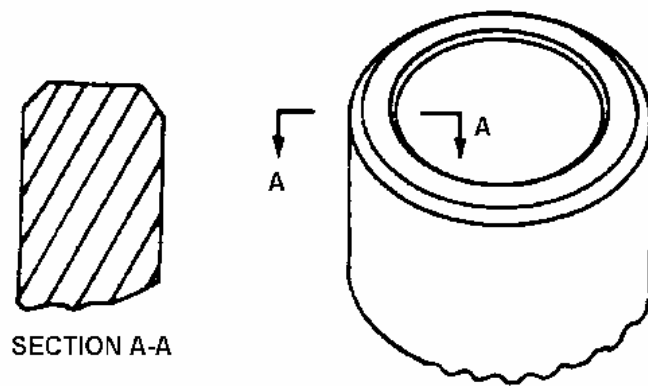

Figure 2. Properly Deburred Tubing
9. **TUBE DEBURRING.** After tubing is cut, remove all burrs and sharp edges from inside and outside of tube (Figure 2) with deburring tools. Clean out tubing, making sure that no foreign particles remain.